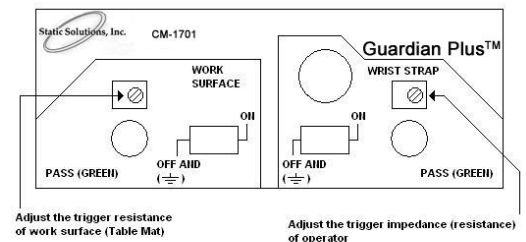

FIGURE 2.
Preset impedance (Operator): The wrist strap person adjustment can be changed The monitor can be changed by turning the adjustment screw to another value (FIGURE 2.) depending on the weight and/or height of the user.
Preset resistance (Work surface (Table Mat)): This is 10 Meg ohms. This can be adjusted to a different value. (FIGURE 2.) Merely turn the adjustment from 10Meg to 5 Meg or 11.5 Meg Ohm.
A 5 Meg Ohm (original setting) was used to set up and calibrate the CM-1702. In case the user has lost or wants to recalibrate the setting connect a 5meg ohm resistor between the ground and banana jack for wrist strap. Then turn the calibration knob in Figure 2 until the LED “**JUST**” changes from flashing red LED to solid green LED to a flashing red LED.
A 10 Meg Ohm (original setting) was used to calibrate the CM-17as example in case the user has lost on setting. Firstly, connect a 10 Meg Ohm resistor between the ground and banana jack for work surface, then turn the knob in Figure 2 until the LED has “**JUST**” change from flashing red to green or green to flashing red.
- 4.The impedance setting is not calibrated correctly to the operator due to the difference in weight or height Turn and adjust the impedance setting pot inside the rectangular hole in the front panel (FIGURE 2.) to a lower or higher sensitivity.
- 1.The sensitivity of the impedance is too low. You need to turn and adjust the impedance setting pot inside the rectangular hole in the front panel (FIGURE 2.) to higher sensitivity.